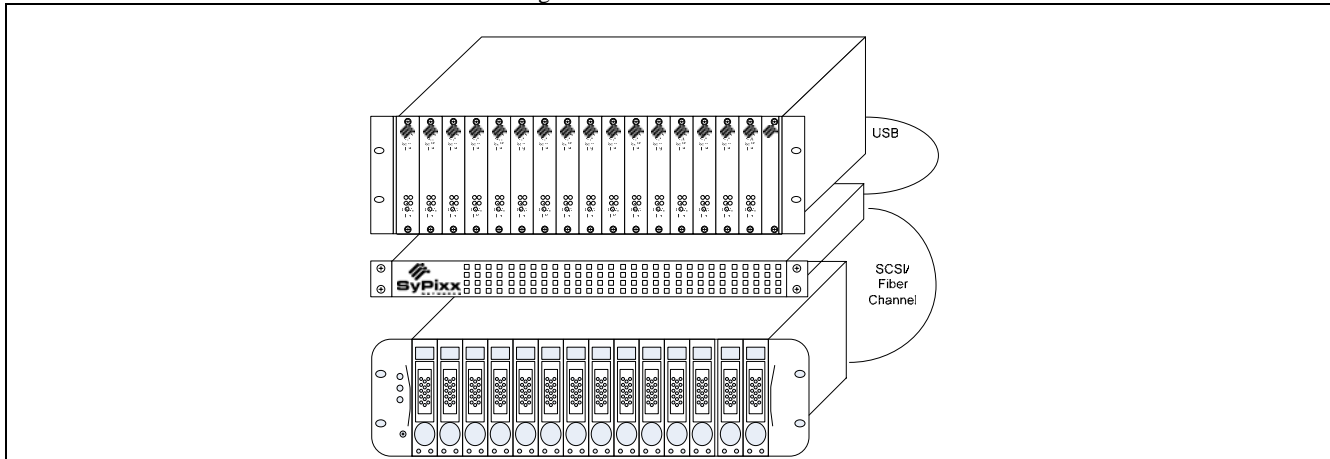

FIGURE 3
As shown in Figure 3, the video data flows as follows:
1. **Navigation Screen** - provides a graphical representation of the selected device. To configure a video, serial, or LAN port, click on the desired port. Once the desired element is chosen, the Properties Screen (see FIGURE 3) will reflect the current settings of the selected element and accept settings changes.